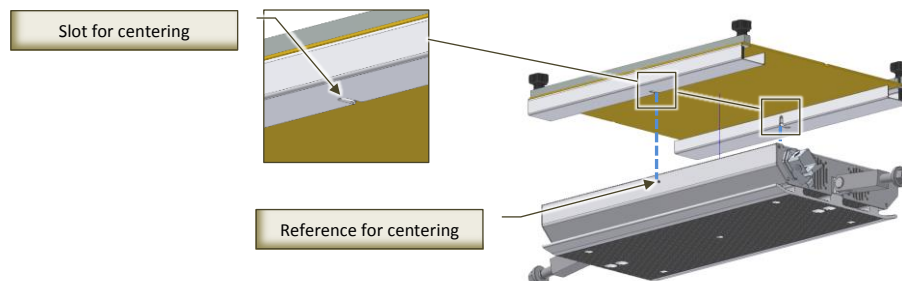

Fig. 7-10 - Positioning of the junction plate on the lower press unit
- Place the junction plate on the bottom plate of the press (Fig. 7-10): the slots of the junction plate must fit perfectly into the references of the bottom plate of the press;